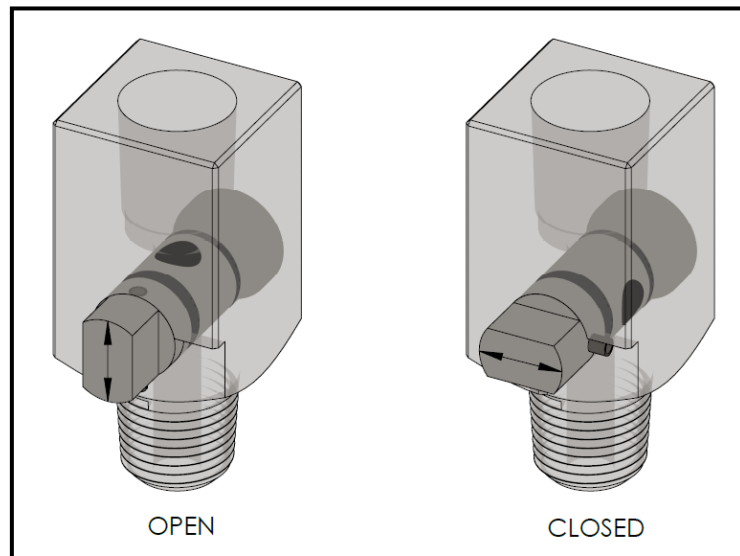

Figure 4
3. Open all the sealant injection ports slightly. Remove all the pipe plugs from connections that don't have sealant injection ports. Leave the bottom sealant injection port that is being used first closed. Figure 4 shows the correct orientation for closed and open sealant injection ports.
EXCEPTION: If injecting into a PLIDCO Flange+Repair Ring containing high temperatures or harmful contents that could cause harm to personnel, it is suggested to close all sealant injection ports except the one closest to the leak and is farthest from the personnel injecting the sealant. Figure 4 shows the correct orientation for closed and open sealant injection port.